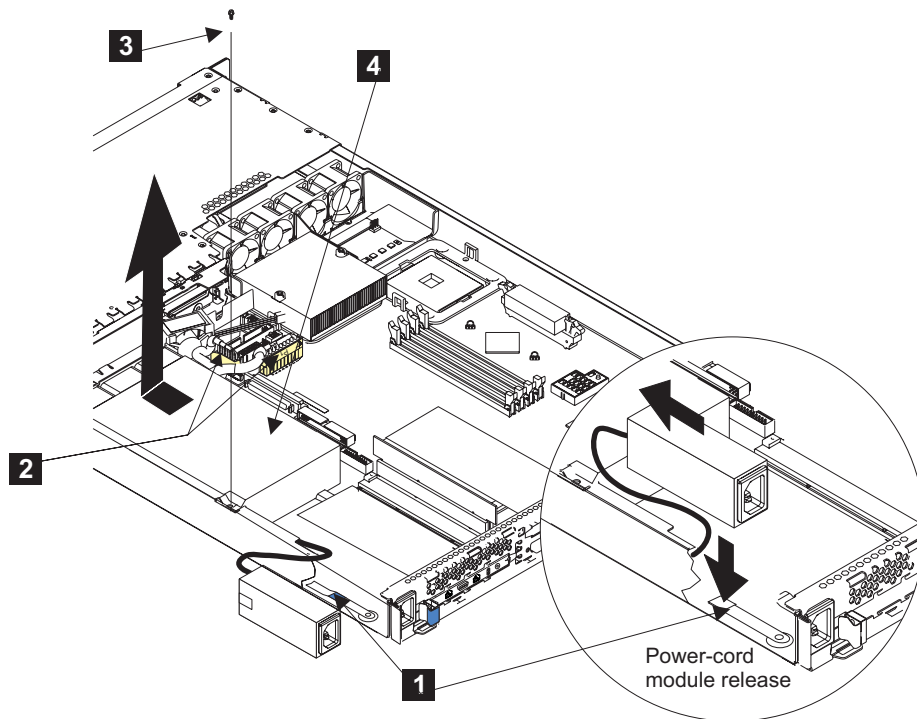

Figure 48. Removing the power supply
4. Remove the disk drive fan. See Figure 48.